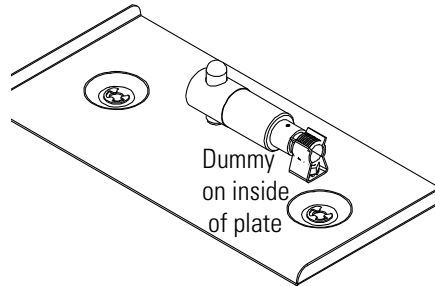

Figure 5-6. Dummy Sensor
**Note** To remove the IR sensor, if applicable, first power the unit off. Then turn the two 1/4-turn fasteners on the top duct until the cover plate is disengaged. Secured on the inside of the plate is a dummy sensor (Figure 5-6). ▲